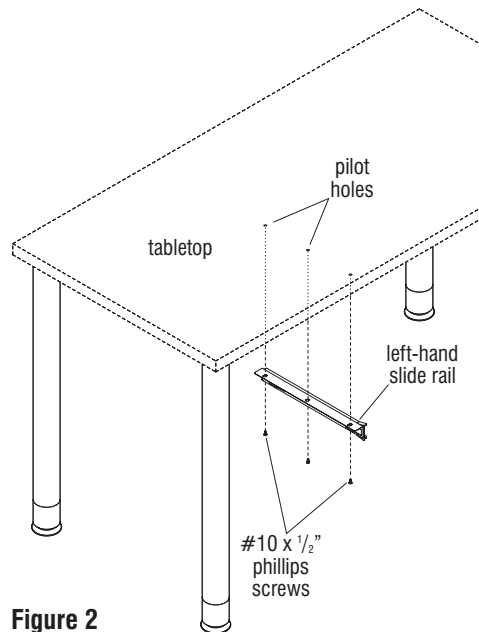

Figure 2
3. If holes are not pre-drilled on the under side of the tabletop, skip to step 4. If holes are pre-drilled on the underside of the tabletop, position the left-hand slide rail straight under the tabletop, centering the mounting slots over the pilot holes, then secure using three #10 x $\frac{1}{2}$ " Phillips screws. Take care to keep the slide rail straight, and to not over-tighten the screws, then proceed to step 12 on the next page (Figure 2).
9. Assure that the slide rail is square to the front edge and secure using two #10 x $\frac{1}{2}$ " Phillips screws. Take care to keep the slide rail straight, and to not over-tighten the screws (Figure 2).